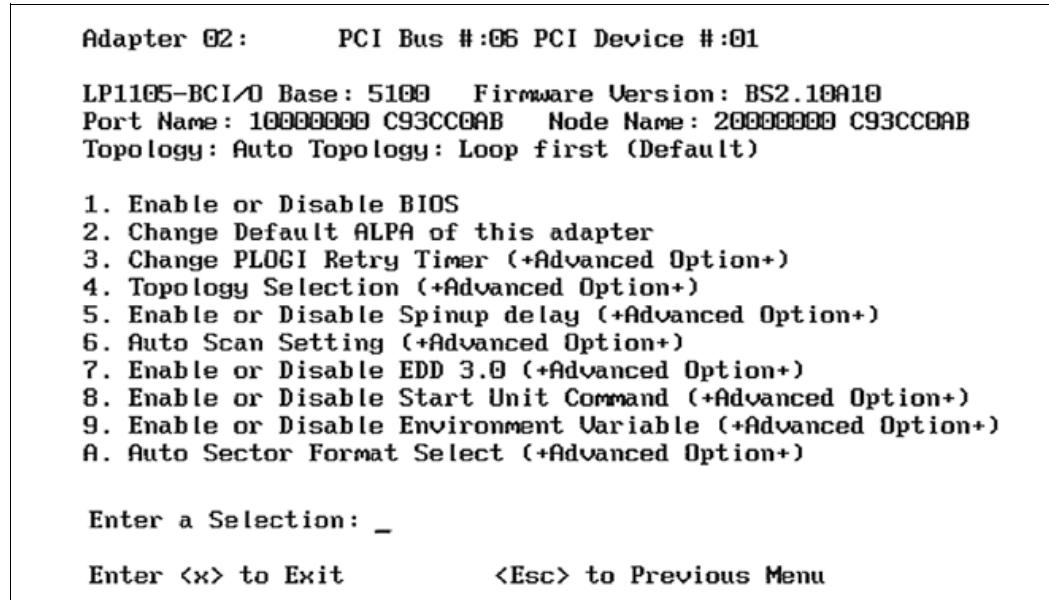

Figure 18-10 Configure the adapter's parameters panel
4. From the Configure Adapter's Parameters menu, select **1** to enable the BIOS as shown in Figure 18-10.